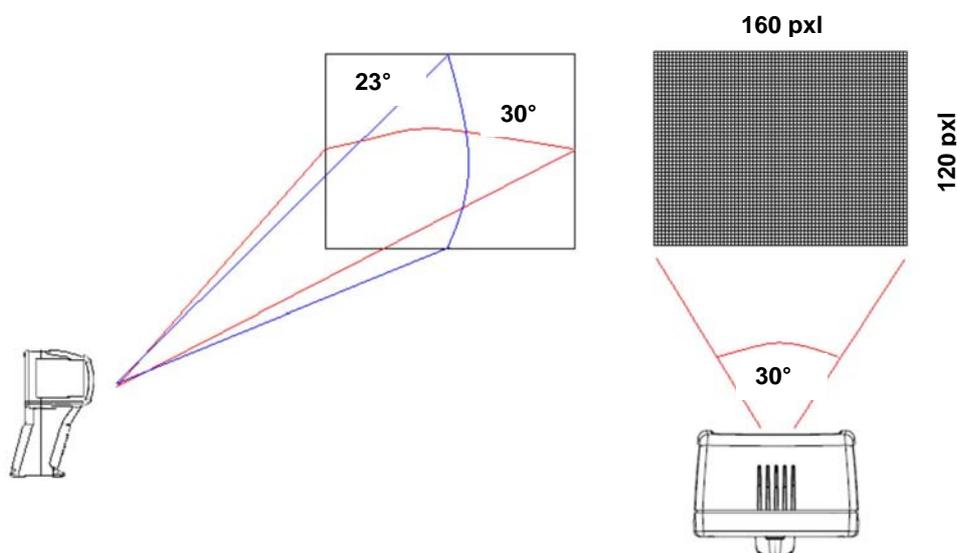

Fig. 71: Representation of the instruments field of view (FOV)
4. For accurate temperature measurements, make sure the surface of the measured object is always bigger than the surface measurable by the instrument, which is given by the instruments field of view (FOV). The instrument has a field of view of $30^\circ \times 23^\circ$ and a detection vector of 160×120 (19200) pixels (see Fig. 71).